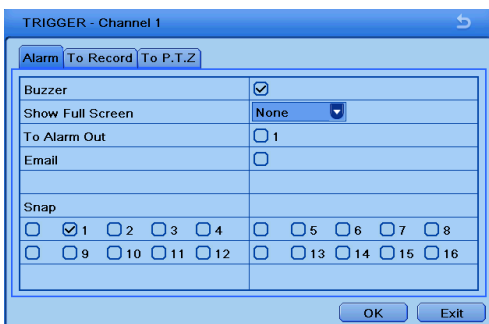

Fig 4-18 Alarm Handling-Trigger
- ② Enable channels by checking the checkboxes beside the desired channels.
- ③ Set the alarm type according to triggered alarm type. Two options: NO and NC.
- ④ Click “Apply” button to save the setting.
- ⑤ Go to Alarm Handling tab. Refer to Fig 4-17. Select hold time and then click “Setting” button to pop up a dialog box as shown in Fig 4-18.